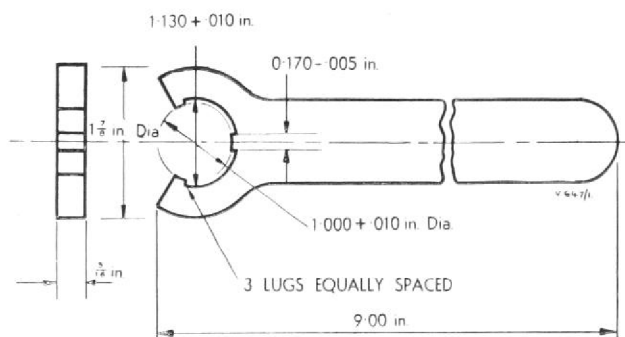

Fig. 6. Dimensions for manufacture of a 'C' spanner for removal of burner from holder.
7. Using a $\frac{9}{16}$ Whitworth open-ended spanner applied to the flats provided on the holder, unscrew the latter from the burner. If however the spanner is not a good fit on the flats, a 'C' spanner made to the instructions given in Fig. 6 may be used, advantage being taken of the slots machined in the holder.